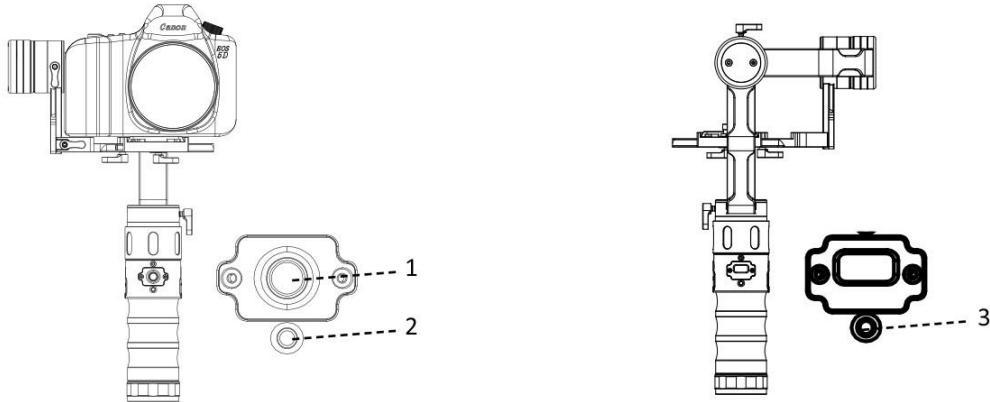

Fig. 9. Gimbal joystick
- Press the power button for one solid second to power the gimbal on (Fig. 9 [2]).
- Use the 4-way joystick (Fig. 9 [1]) to control the camera tilt and pan direction. Push the joystick up or down for tilting up and down. Push the joystick to the left or to the right to pan the camera left or right.
- Press the mode button one time, which is located under the OLED screen (Fig. 9 [3]) to enter **Lock Mode (Profile 1)**: camera will hold the direction and not follow, pan, or tilt.